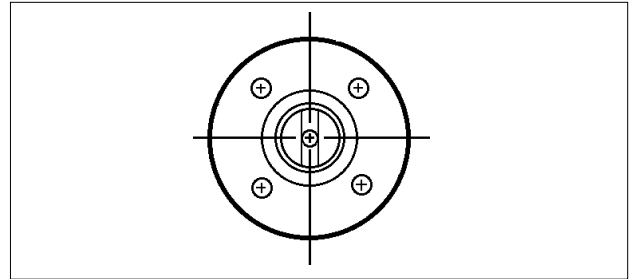

Figure 2.8
5. Rotate handwheel operator (58) until slack, or release all air pressure from the actuator.
6. Position mounting bracket (76) onto the positioner base plate (26) and secure with four cap screws (79). The bracket should end up with four holes to mount the positioner unit and its baseplate (26) as shown in Figure 2.8.